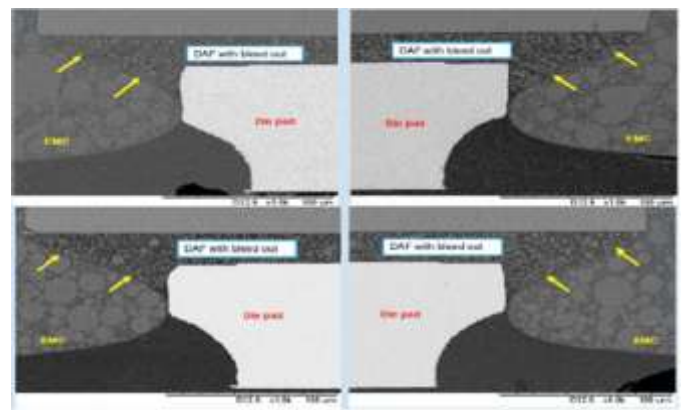

Fig. 2. DAF sagging or bleed out.
- One of the critical issues encountered on COL packages is the DAF sagging in Fig. 2, wherein the DAF is bleeding out or sagging with respect to the die pad